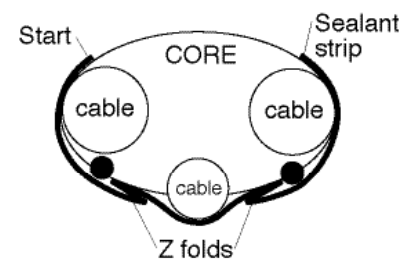

Figure 4
9. Start sealant strip provided 1" past the large cable. Wrap it around the apple core and Z-fold sealant (see Figure 4) between both ground wires and small cable to eliminate voids. If needed, wrap second sealant strip around the apple core. Tightly compress all cables together by hand to eliminate any other voids. (Fig. 4)